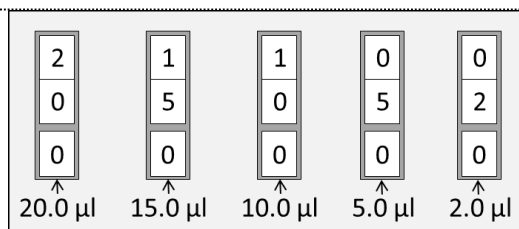

Figure 1.2 The display window for five micropipette volumes.
5. Figure 1.2 shows five micropipette volumes. Practice setting the micropipette to these volumes.